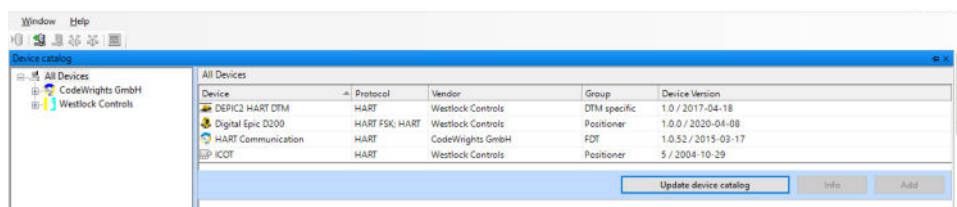

Figure 3: Device Catalog
2. Click on *Device Catalog* icon which is located on the upper right hand toolbar. Alternatively, select *View* on the top of the menubar and select *Device Catalog*. **Figure 3** illustrates the the Device Catalog screen.